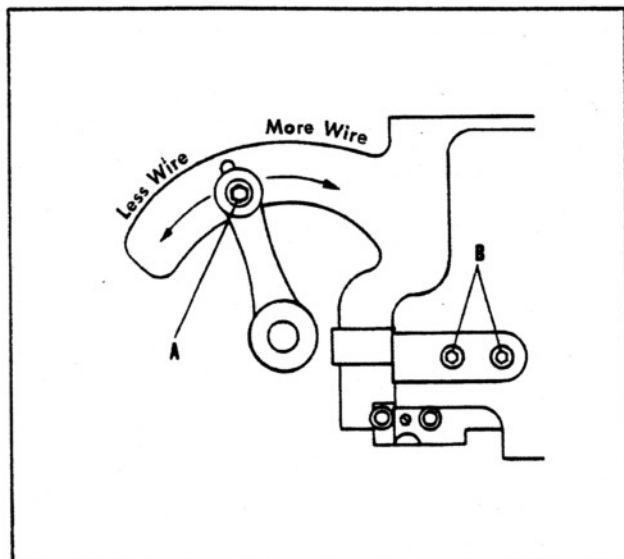

Figure 7
6. To increase or decrease the leg length of the stitches, loosen the screw of the wire feed index lever (Index A, figure 7) and the cutter block (Index B, figure 7). Move the wire feed index lever to the right for more leg length—to the left for less leg length. Tighten screws of index lever and cutter block. Repeat step 5.